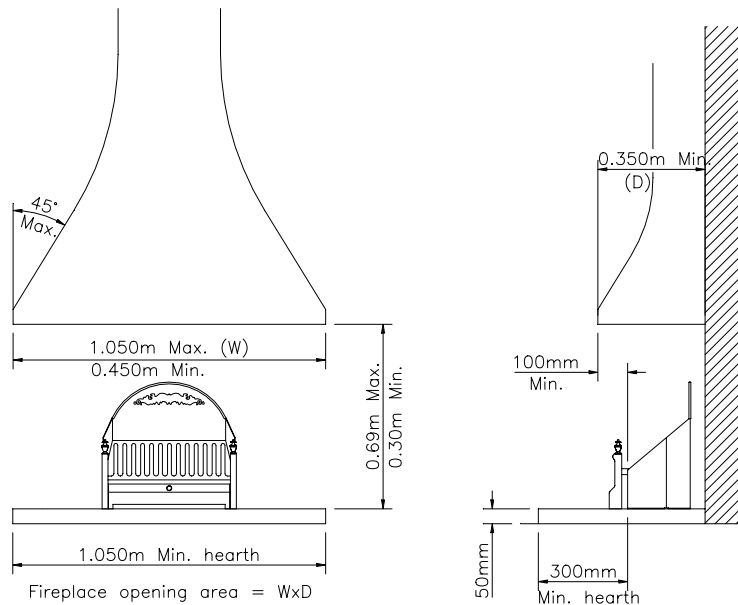

Fig. 4 Free-standing installation under an independent canopy
13. Replace the ceramic blocks and coals (see Figs. 4 and 5).